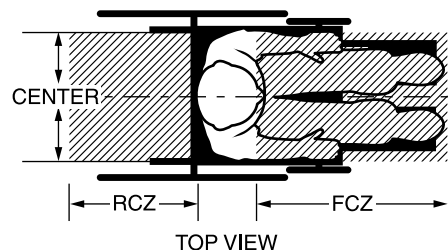

Figure 11. Recommended Clear Zones for Power Chair-seated Occupants
- The frontal clear zone (FCZ) is measured from the forwardmost point on the occupant's head and should measure at least 66 cm (26 in.) if both a pelvic and upper-torso belt are used. See figure 11.
- The rear clear zone (RCZ) is measured from the rearmost point on the occupant's head and should measure at least 40.64 cm (16 in.). See figure 11.
- The seated head height (HHT) ranges from about 120 cm (47 in.) for a small adult female to about 155 cm (61 in.) for a tall adult male. See figure 11.